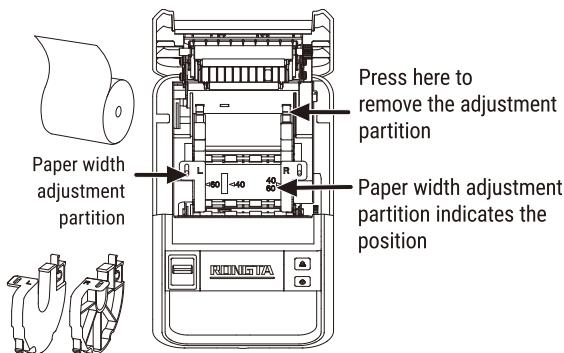

Figure 6
- 2) Make sure that the printing side of the paper roll faces forward, and place the paper width adjustment partition according to the size of the paper roll (see the tip at the bottom of the paper bin, as shown in Figure 6 below)
**⚠ Note:** When using 40mm/60mm linerless or continuous paper, the paper width adjustment partition should be placed on the left and right sides of the paper storage room. When using 40mm paper roll, the left paper width adjustment partition should be placed at the 40mm mark at the bottom of the paper storage room. When using 80mm liner less or continuous paper, the paper width adjustment partition is not needed. Press the raised part above the paper width adjustment partition to easily lift it up, as shown in Figure 6 above.